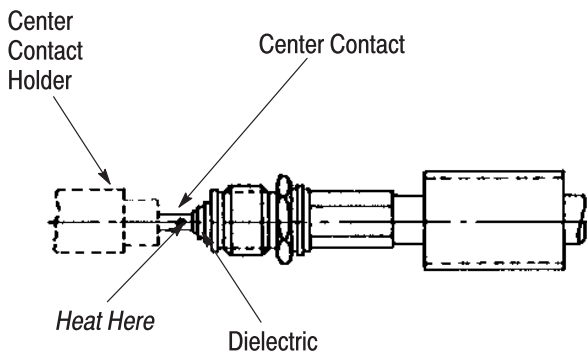

Figure 5
11. Push the center contact over the inner conductor of the cable. See Figure 5.